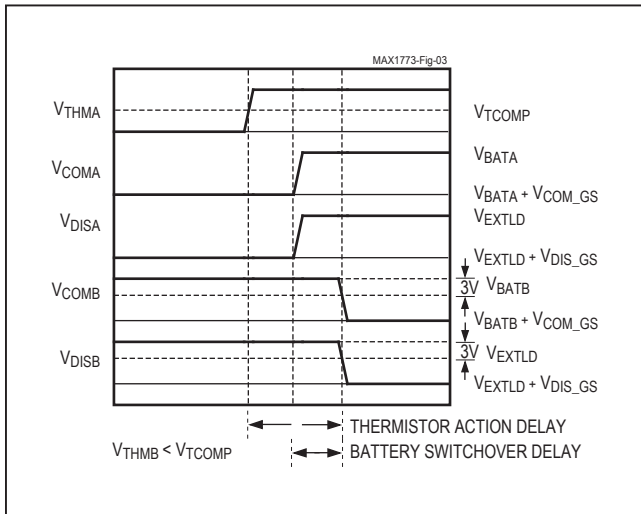

Figure 3. Thermistor Switchover Delay (Battery A to Battery B)
**Note 8:** Thermistor Action Delay begins when  $V_{THM\_}$  of the connected battery rises above  $V_{TCOMP}$  and ends when both  $V_{COM\_}$  and  $V_{DIS\_}$  of the other battery have fallen 3V below their sources (Figure 3 and 4).
Ideally, when a battery is removed from the system, the thermistor connection is broken before the battery’s power path is broken. In this case,  $t_{SWITCHOVER}$  is typically bound by the Thermistor Action Delay (Figure 3 and 4). However, if the battery’s power path is broken first, then  $t_{SWITCHOVER}$  primarily consists of the shorter of the following times: time until the thermistor connection is broken plus the Thermistor Action Delay, or the Battery Action Delay.